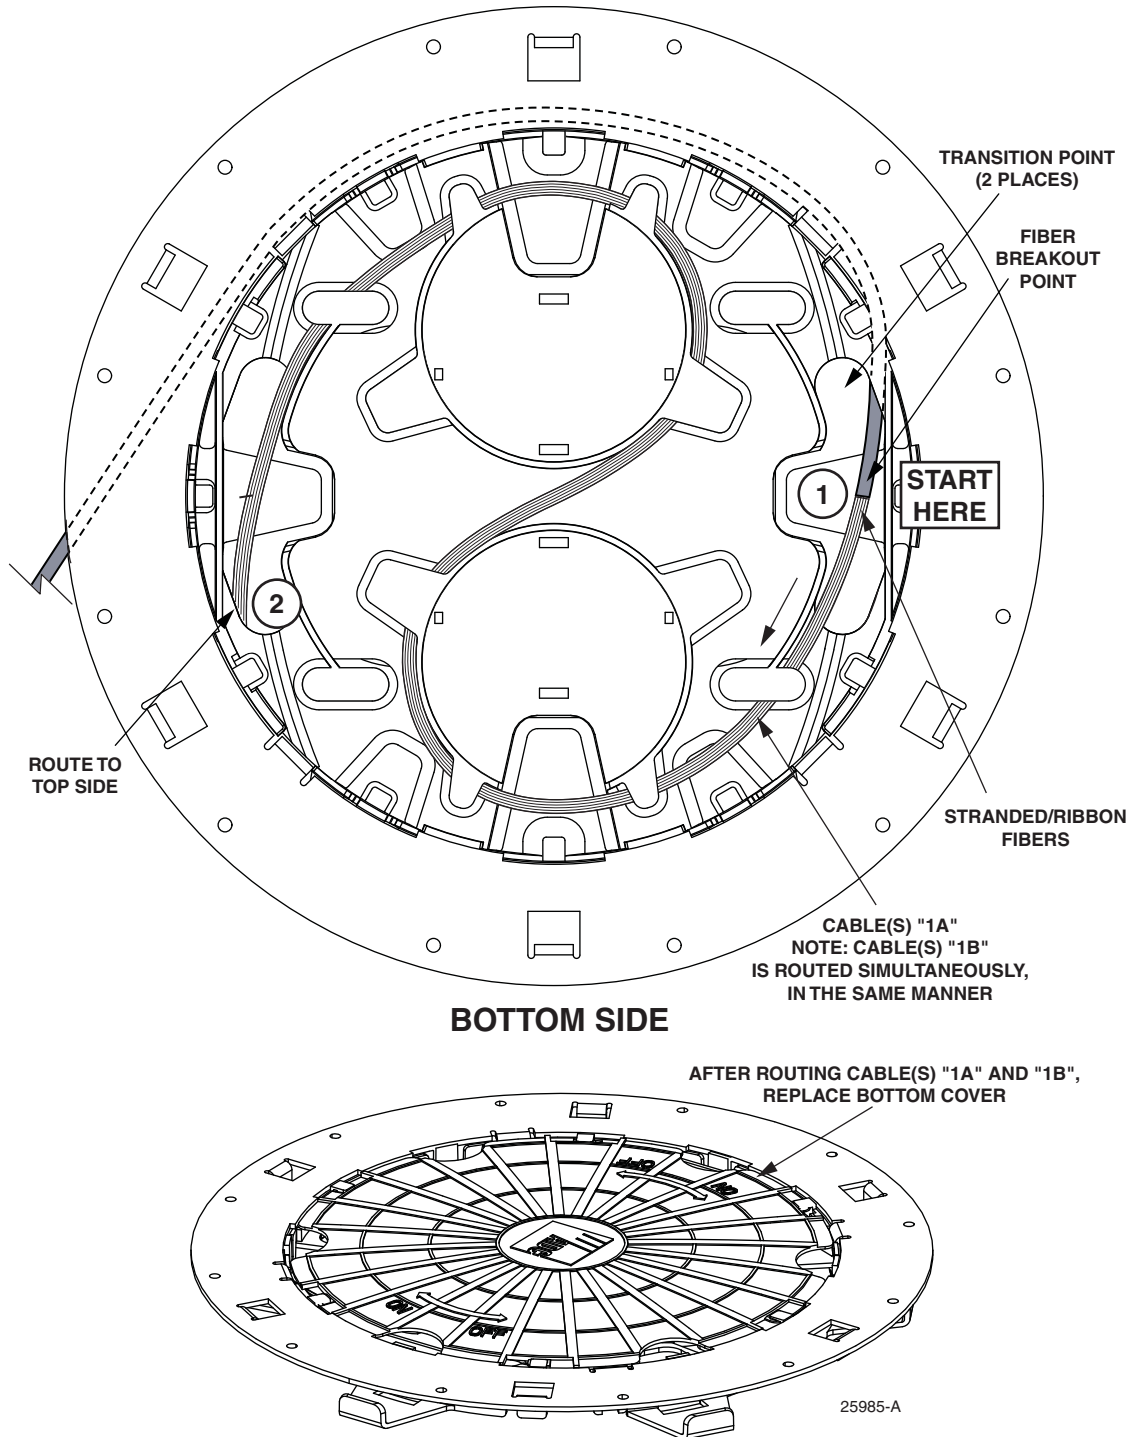

Figure 18. Cable(s) "1A" Routing, Bottom Side (Counter-Clockwise Roll-Up Procedure), continued
- Flip the tray over and continue routing cable(s) "1A" (and "1B") around the spools and back to the top side, as shown in Figure 18. After routing cable(s) "1A" and cable(s) "1B" on bottom side, replace bottom cover.